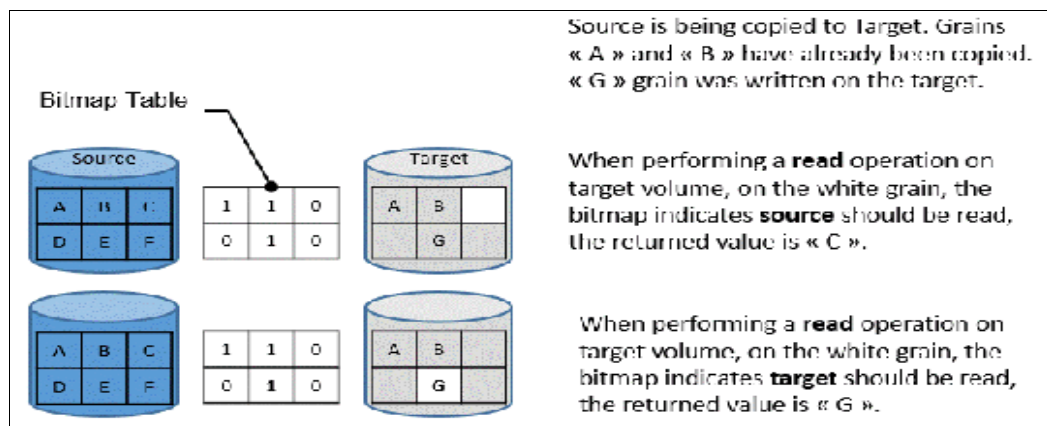

Figure 10-9 Reading a grain on target
- If the bitmap indicates that the grain was copied from the source or that the grain was modified on the target, the grain on the target is read, as shown in Figure 10-9.
- If the bitmap indicates that the grain was not yet copied from the source or was not modified on the target, the grain on the source is read, as shown in Figure 10-9.